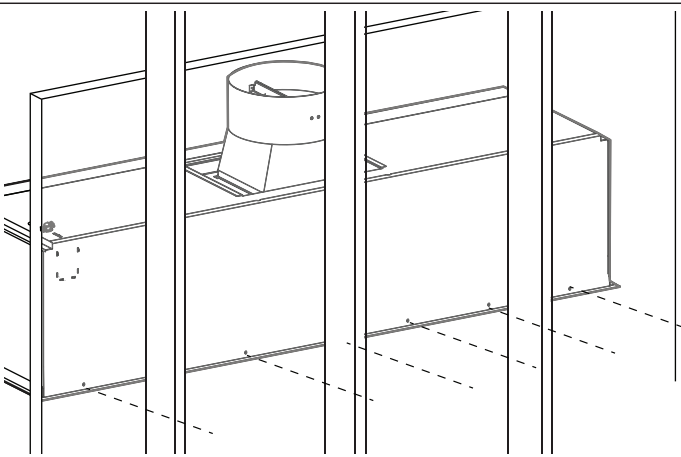

Figure 10: Rear Screws
- b) Secure to the rear of the housing framework using six (6) x 1" (25.4 mm) mounting screws, as indicated in Figure 10.